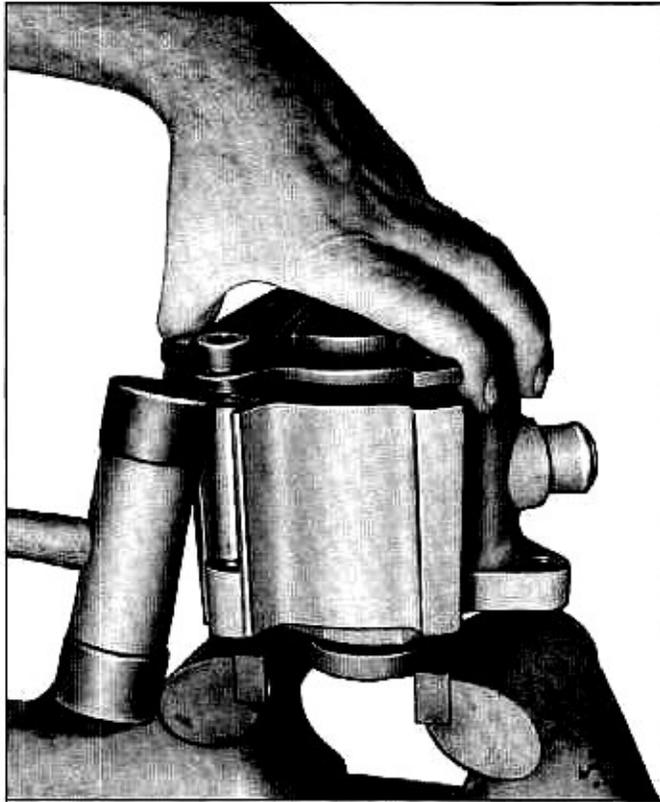

Fig. 10—Removing Cover Assembly
1. Support the drive hub in a vise and remove the cover attaching bolts then remove the cover assembly by tapping straight up with a plastic mallet (fig. 10).